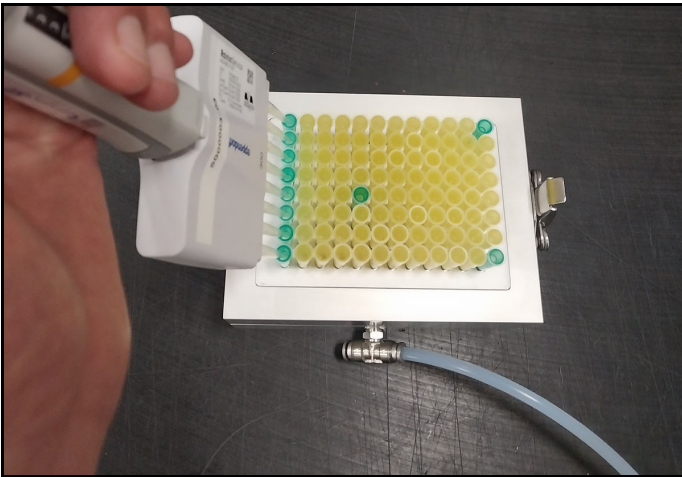

Figure 111
7. Once chemistry is chosen, cleavage cocktail can be applied to columns (Figure 111).